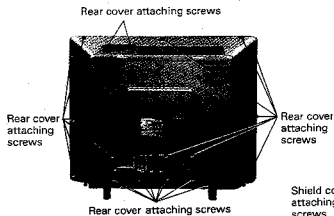

Fig. 4-1.
2. Remove 24 screws retaining the rear cover. (Fig. 4-1)